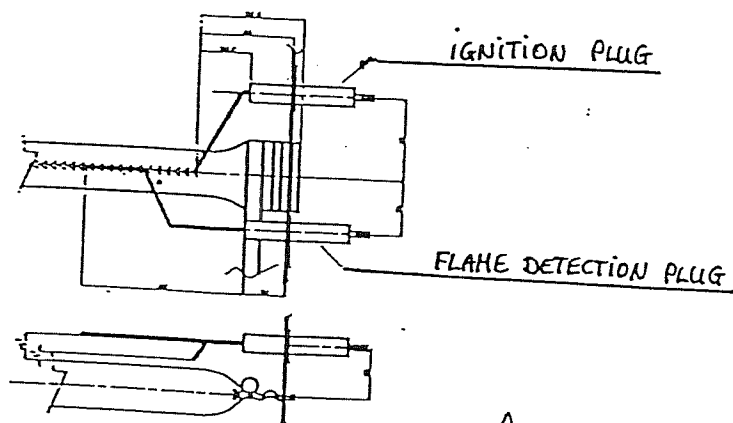

Fig. 4
- **IGNITION AND FLAME DETECTION PLUG (fig.4)**